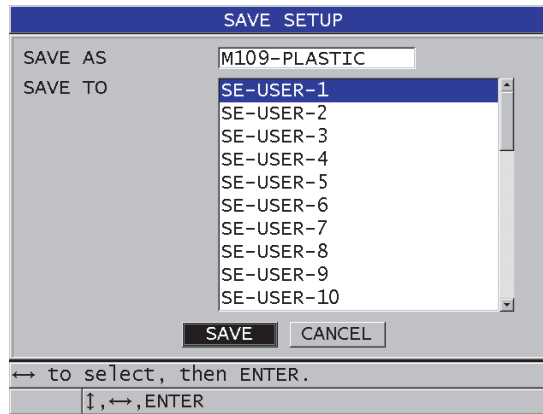

Figure 13-17 Saving custom setups
4. In the **SAVE SETUP** screen (see Figure 13-17 on page 260):